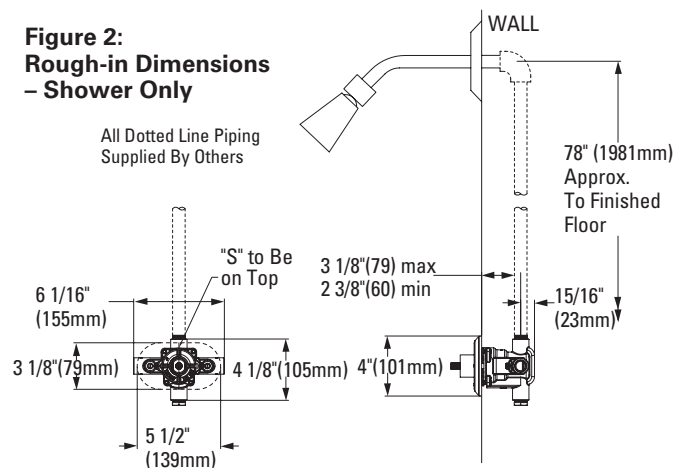

Figure 3:
- a. Before strapping the pipes and before completing the finished wall, slide rough-in guide onto the mixing valve stem and press fit into place, see Figure 3. (valve stem must be rotated fully clockwise).